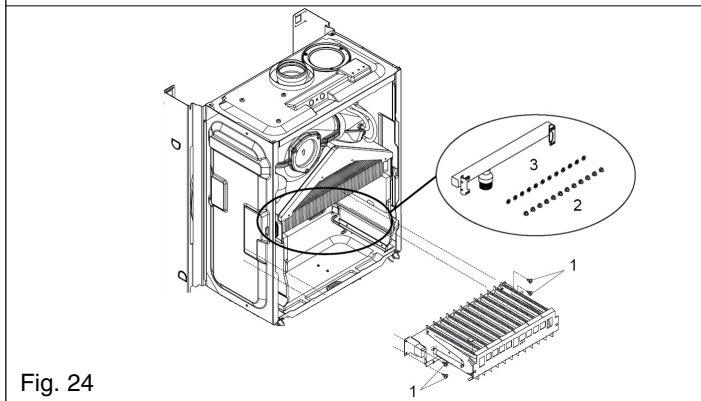

Fig. 24
**FIG. 24:** locate and remove the four screws which secure the burner in position (1), gently ease the burner out of its location. Once the burner has been removed, the electrode retaining screw can be removed. Locate the burner injectors (2) and remove (if necessary). Replace in the reverse order.
**Please note**, the injector sealing washers (3) must be replaced if the injectors have been removed, ensure all seals are in good condition, taking care to ensure they are replaced correctly. Replace in the reverse order.